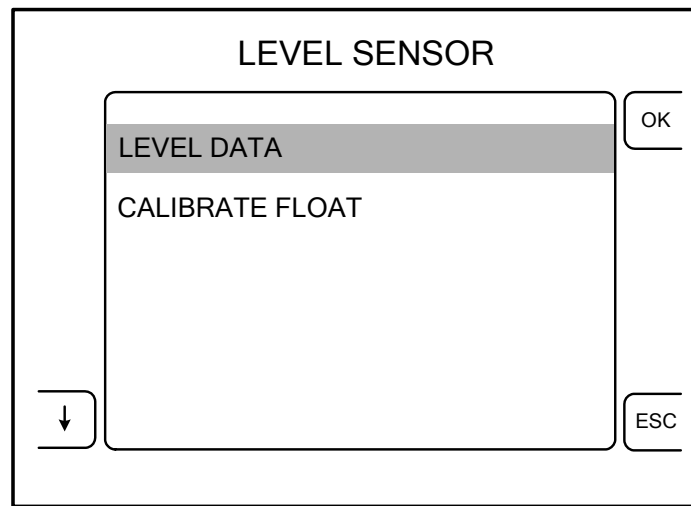

Figure 8: Select the LEVEL DATA Menu
- Next, push the buttons next to the arrow icons (on the left side) to highlight the LEVEL DATA menu and press OK to display the level data screen. (see figure 8)